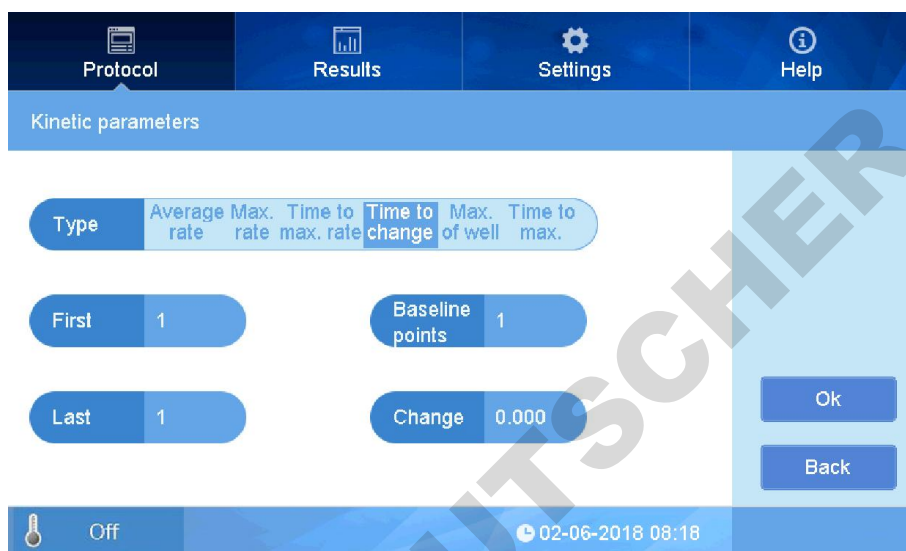

fig 27
- At right side of interface , click “Parameters” to set(Fig 27).